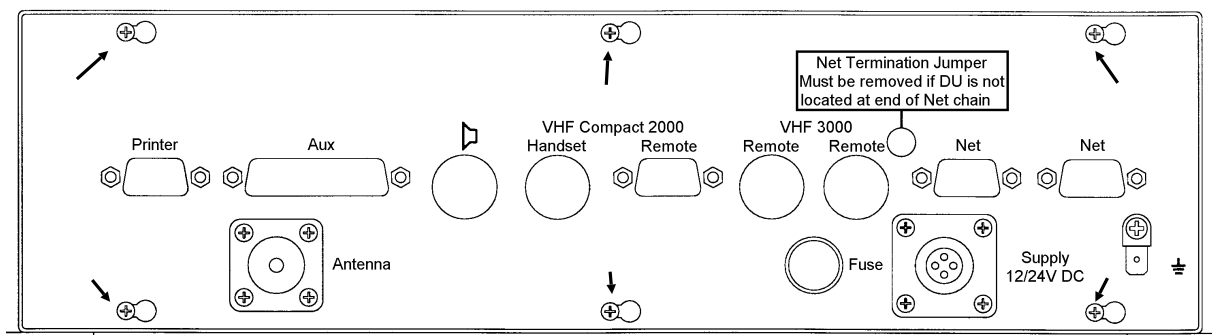

Fig.1
2. Loosen the 6 screws of the connector panel (fig.1) and carefully take the board assembly out of the cabinet.